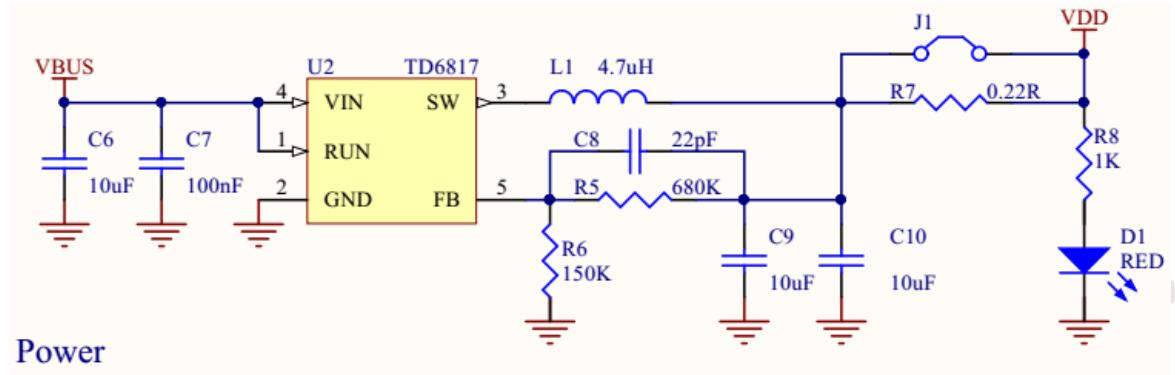

Figure 14 Power reference circuit
- Please according to the SMT reflow soldering curve, peak temperature 245 °C, reflow soldering,temperature curve as shown in figure 14, section 7.6;